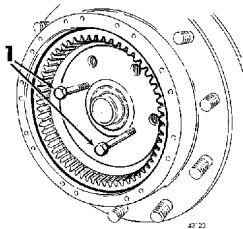

Figure 4
13. Screw in two bolts in the ring gear and lift away the gear, see Figure 4.